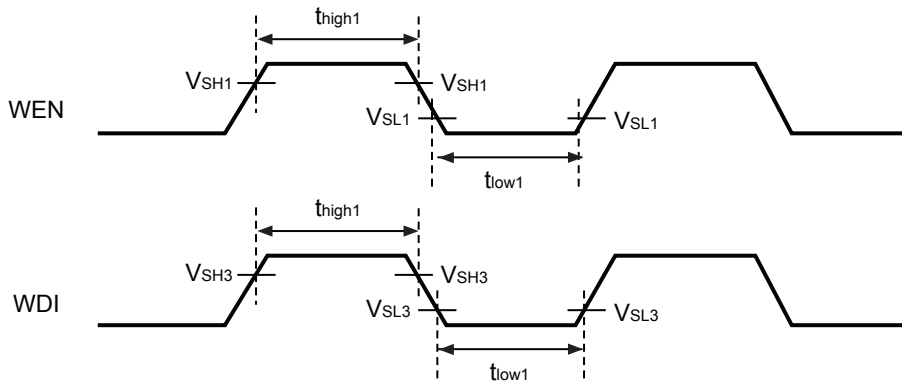

Figure 7
*2. The input pulse width "H" (t_{high1}) and the input pulse width "L" (t_{low1}) are defined as shown in Figure 7. Inputs to the WEN pin and the WDI pin should be greater than or equal to the min. value specified in "■ Electrical Characteristics".